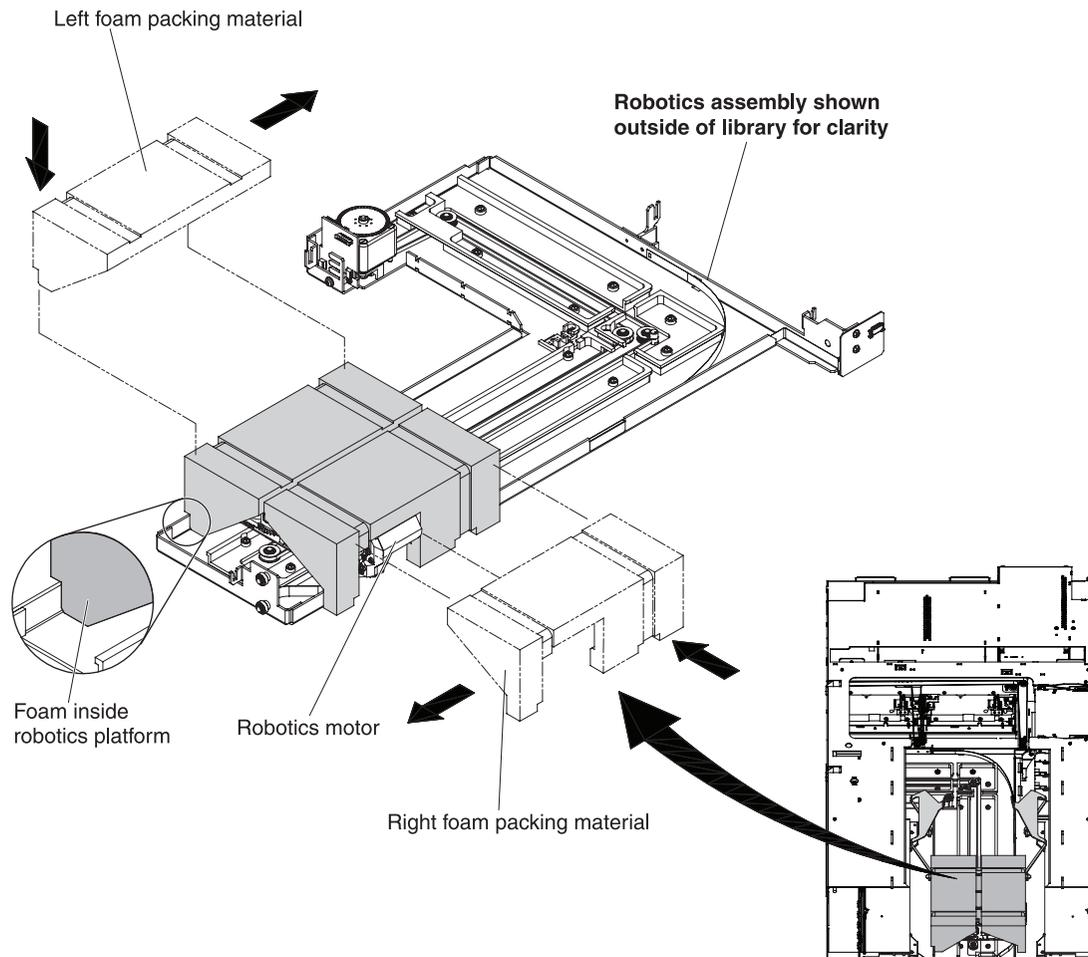

Figure 8. Installing the foam robotics packing material
4. Install the two halves of the foam robotics packing material as shown in Figure 8: